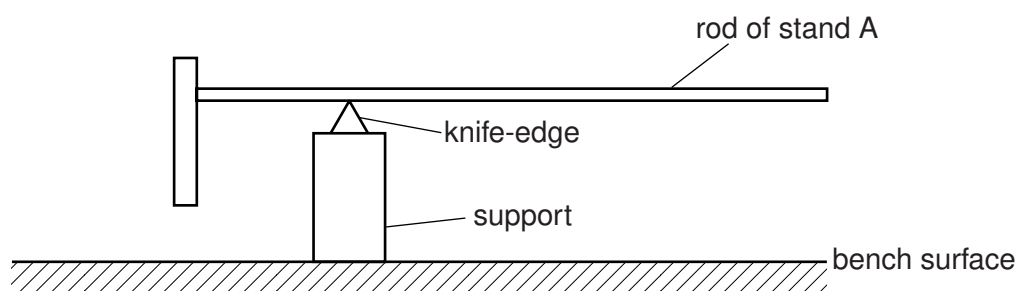

Fig. 1.1
2. In the first part of the experiment, the **candidate** will set up the apparatus as shown in Fig. 1.1. The height of the support must therefore be greater than the length of the base of the stand. Also the width of the support should be sufficiently small to allow candidates to balance the stand. It may be easier to place the support on one of its ends, in which case the Supervisor may wish to fix the position of the support with Blu-Tack. The knife-edge should be attached to the support with Blu-Tack.